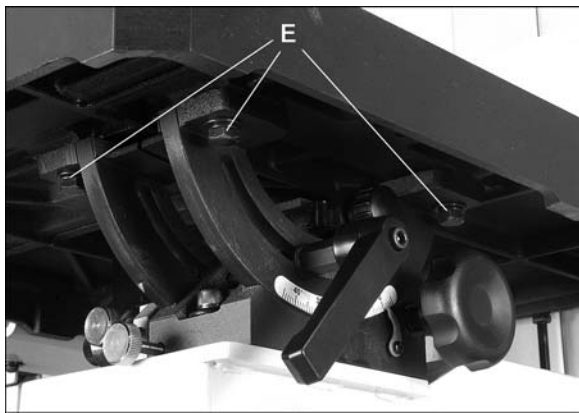

Figure 11
6. If miter slot is not parallel to blade, loosen four screws (E, Figure 11) that secure table to trunnion, and shift table as needed until miter slot is parallel to blade.